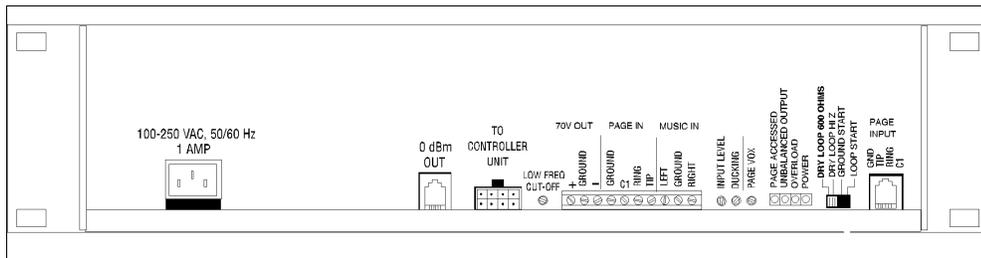

Figure 6. AmpliCenter Mode Switch Setting
1. Set the AmpliCenter Telephone Mode Selection Switch to Dry Loop 600 Ohms (Far left setting). See Figure 6.